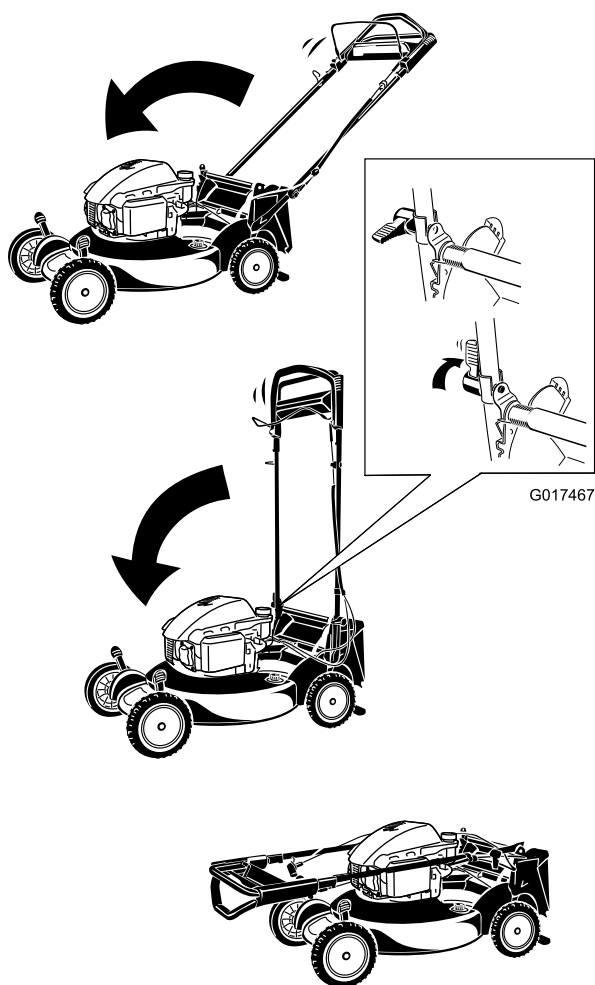

Figure 35
2. Rotate the handle forward (Figure 35).